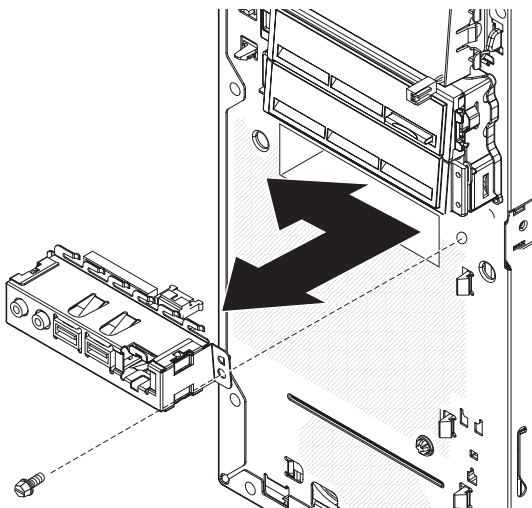

Figure 43. Removing the front I/O panel
9. Remove the I/O panel screw on the front of the computer (see Figure 43).